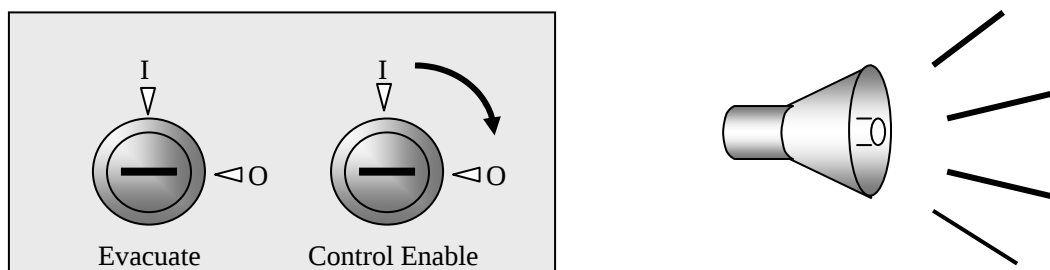

Fig.4.1.5c Operation level 1
4.1.5.3 Insert the key in the **Control Enable** keyswitch and turn it to **O** position, the panel is enabled at the operation level 1 with the internal switch SW1.1 in the OFF position. See Fig.4.1.5c. Under this condition, the external sounders are in the non-silenceable state supposed that they have been started automatically.